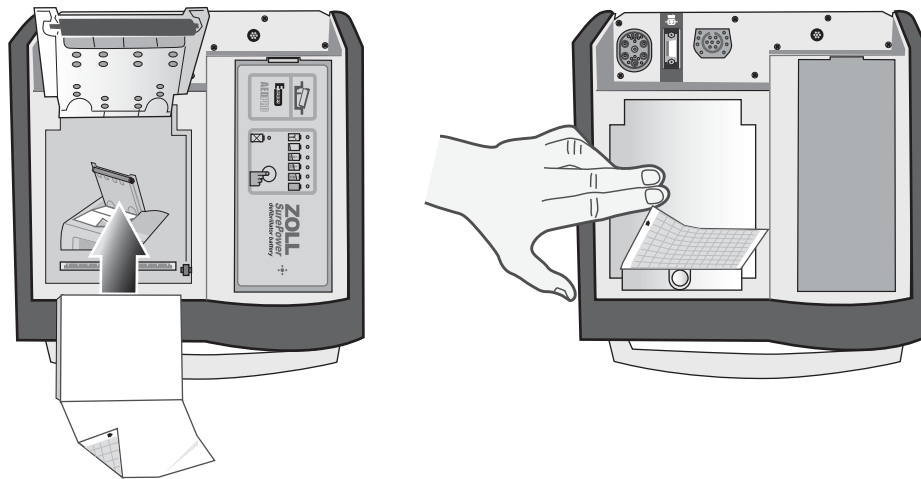

**Figure 13-5. Opening the Printer Door**
1. Press the release button, and allow the printer door to open (see Figure 13-5); then remove any paper.